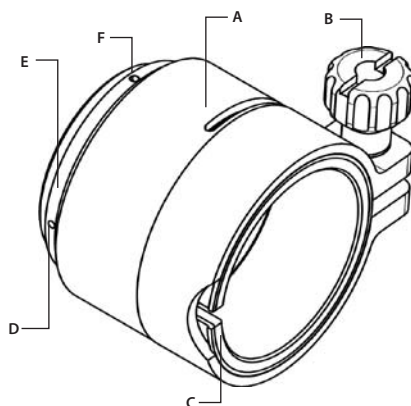

FIGURE 3-10. SCOPE MOUNTING SYSTEM
To install the CO-MINI on the lens of a day scope, do the following (refer to Figure 3-10):
3. Using a screwdriver, remove both screws M2x2.5 (F, see **Figure 3-10**) and then unscrew the ring (E).